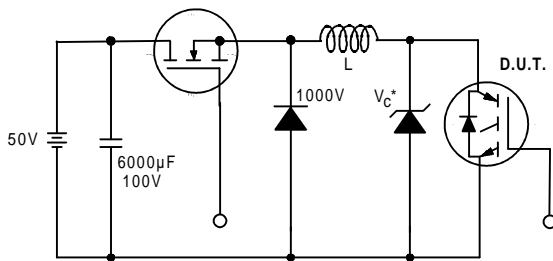

Figure 19. Clamped Inductive Load Test Circuit
- ② $V_{CC}=80\%(V_{CES})$, $V_{GE}=20V$, $L=10\mu H$, $R_G = 23\Omega$ (Figure 19)
- ③ Pulse width $\leq 80\mu s$; duty factor $\leq 0.1\%$.
- ④ Pulse width $5.0\mu s$, single shot.